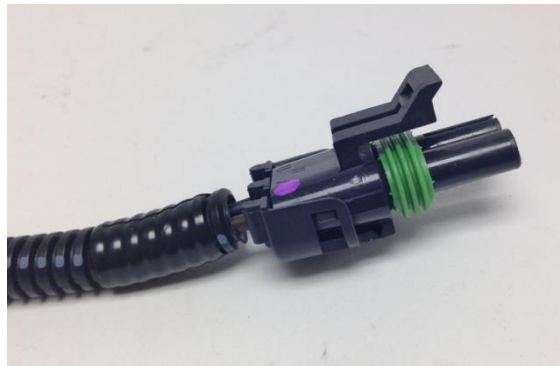

Figure 8– Washer Pump Connection
12. The Detroit Speed Selecta-Speed harness does include a weather pack connector to install an optional electric inline washer pump into your vehicle (Figure 8). Detroit Speed does offer a washer pump kit you can purchase separately as part number 121102.